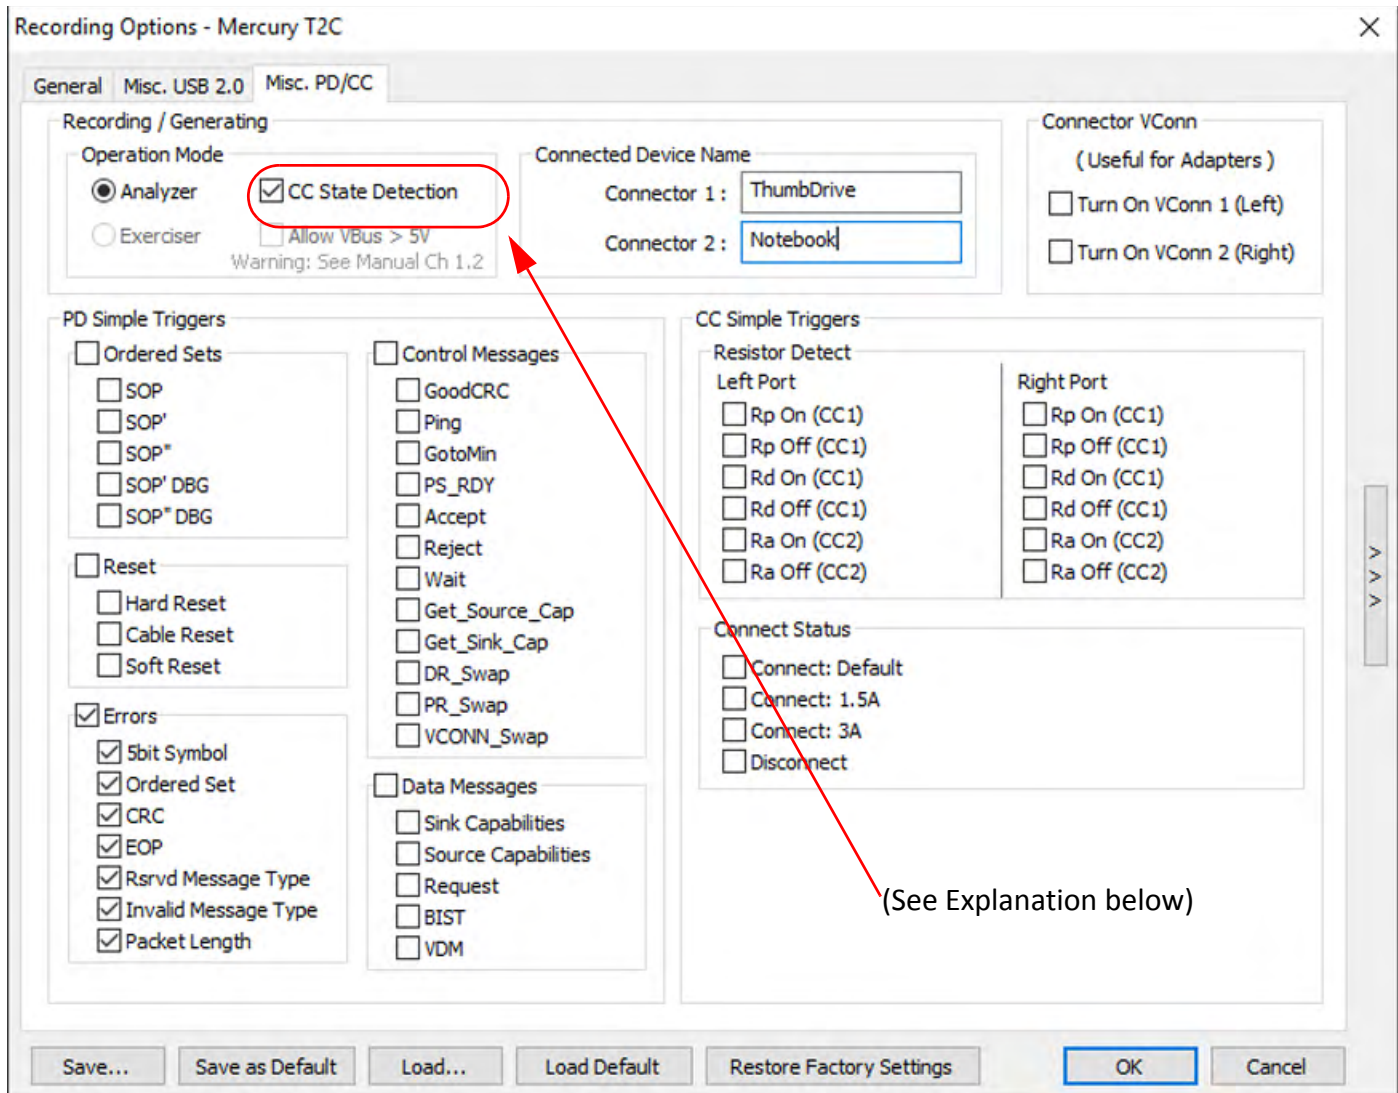

Figure 10.8: Mercury T2C: Recording Options for PD and CC Events
The Simple Trigger Options for Power Delivery (PD)/Channel Configuration (CC) events are shown in Figure 10.8 on page 337.